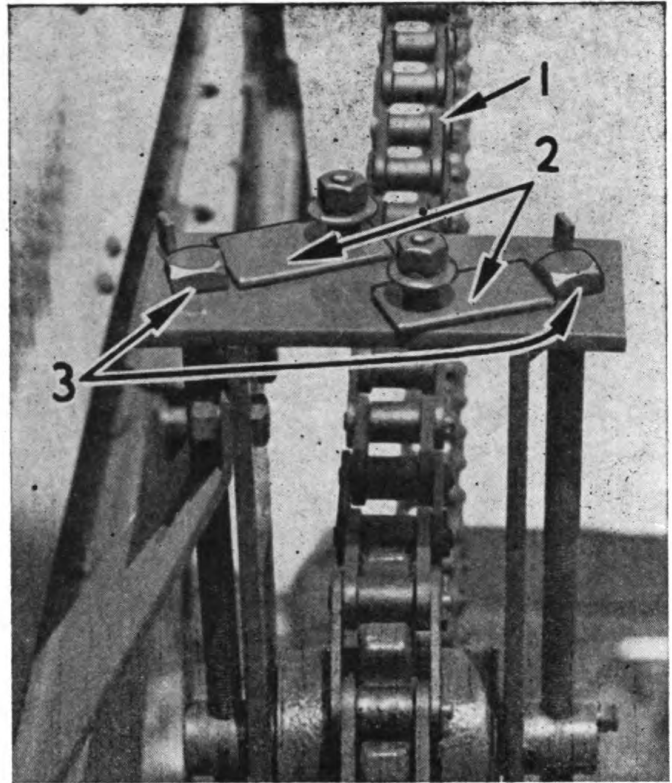

Figure 41. Take-up for Bucket Line drive chain showing lock plates and take-up bolts.
BUCKET LINE DRIVE CHAIN—Figure 41:
This chain (1), Figure 41 is in proper adjustment when the amount of sag in the chain from the take-up sprocket to the headshaft sprocket is not less than 1" or more than 3".